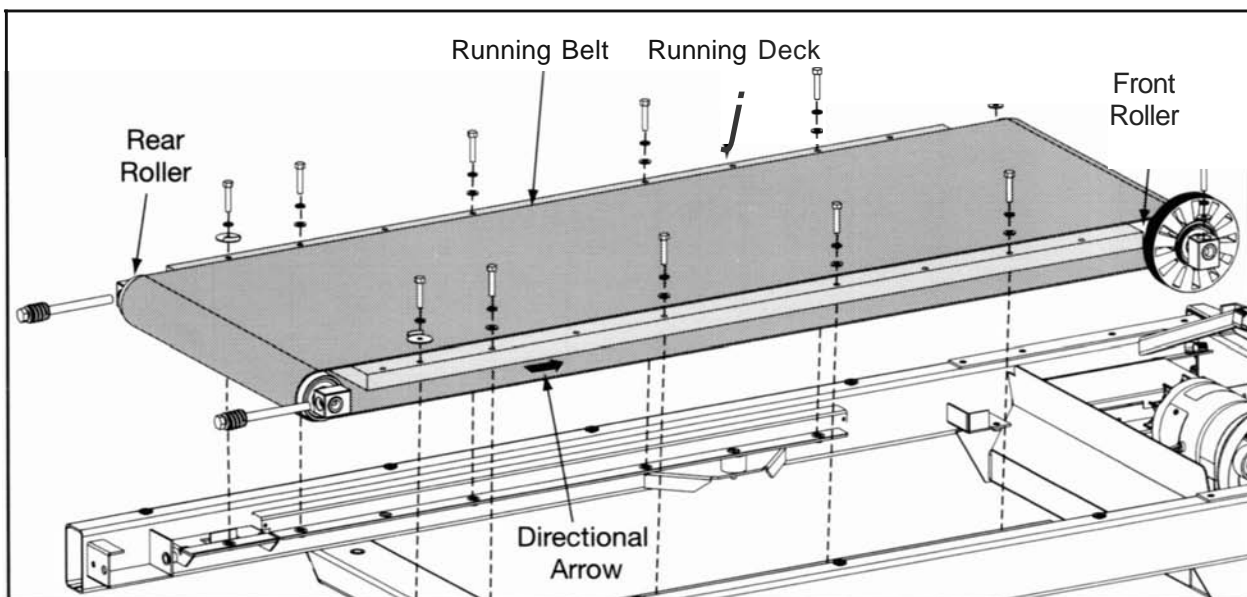

Figure 7
- B. Look for the directional arrow inside the running belt. If the old arrow has rubbed off, draw a new arrow pointing the direction of travel. See Figure 7.
- A. Locate the directional arrow stamped on the inside of the belt. The arrow should point the direction of travel. See Figure 7. Place the running belt in position.